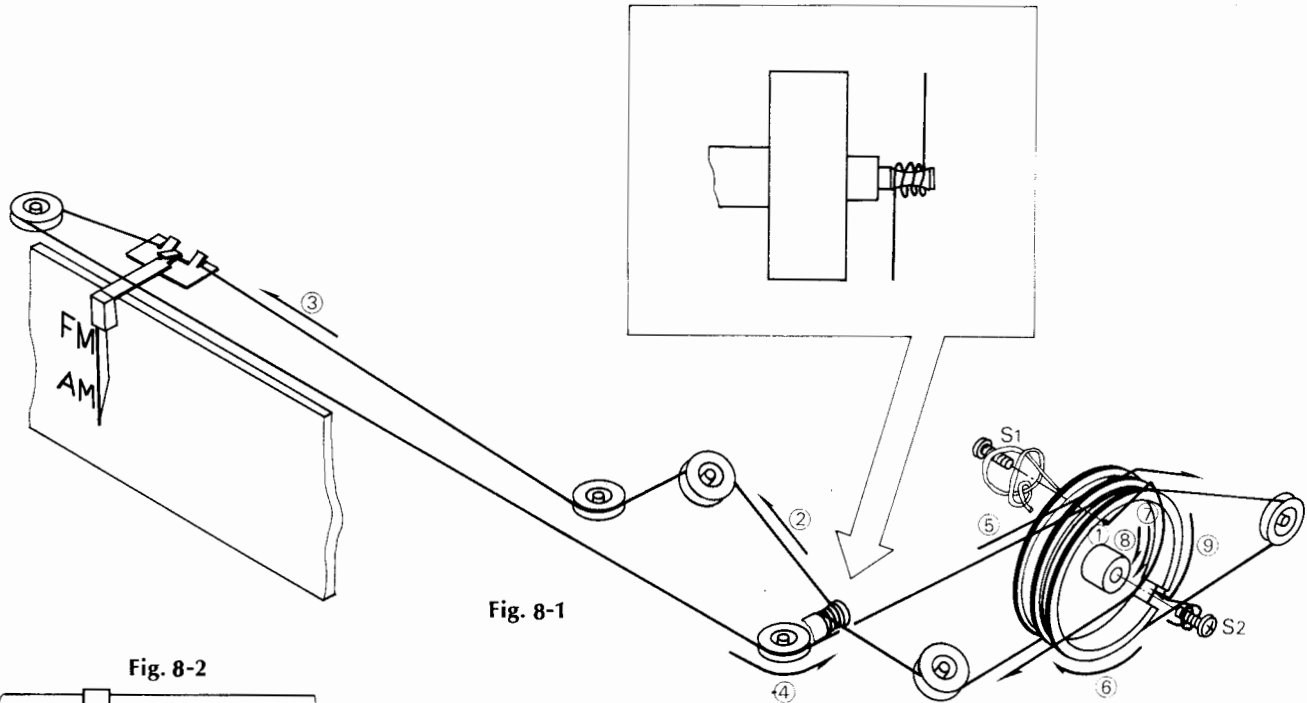

Fig. 8-1
Thread the dial cord in numerical order from ① to ⑨ as Fig. 8-1.
- 3) Thread cord in the direction of arrow from ① to ⑨
- 4) After ⑨, tie the cord to the screw S2 of the dial pulley.